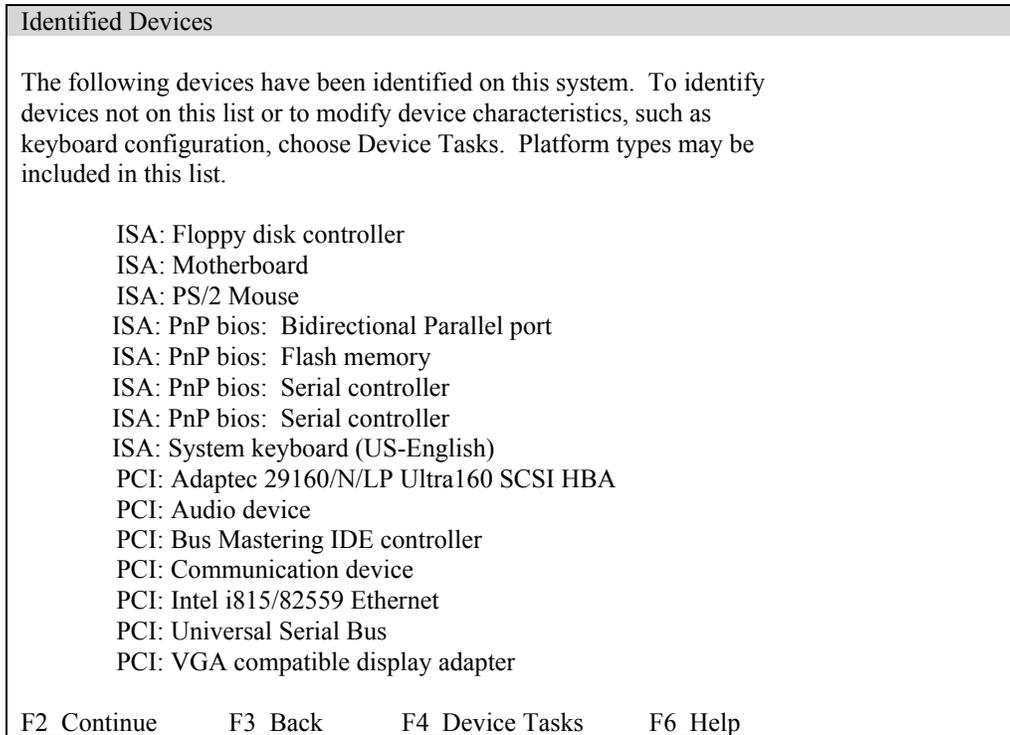

Figure 3-19 Identified Devices Screen
7. The Identified Devices screen (Figure 3-19) will be displayed.